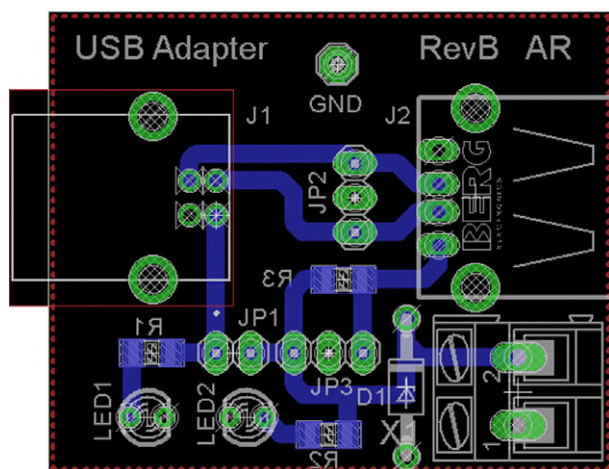
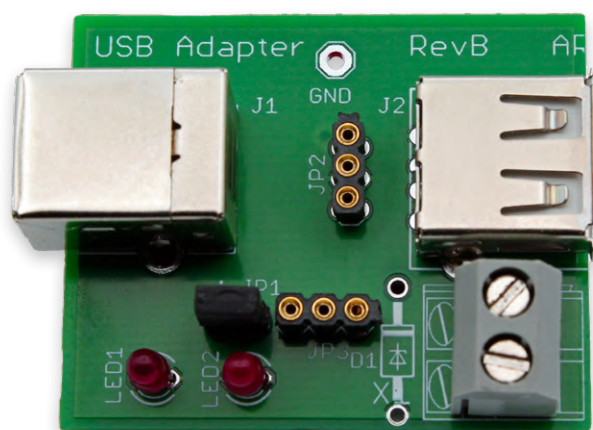

Figure 2: The compact PCB layout.
Figure 3: The populated USB measurement adapter board.
**Figure 1** shows the relatively simple circuit, and **Figure 2** depicts the compact layout of the adapter PCB, with layout files available online [1]. The populated board in **Figure 3** is missing diode D1. The PC connects to J1, a USB type B socket, using a USB-A-to-USB-B cable. The peripheral device connects to J2, a USB type A socket.